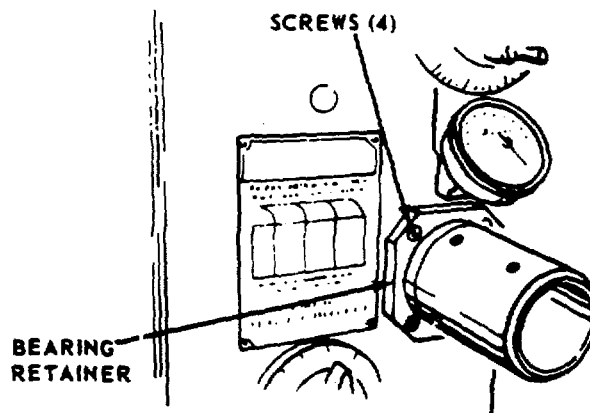

FIGURE 125
- (i) See Figure 125. Using a 3/16-inch) hex wrench, remove the four Screws holding Bearing Retainer to housing.
- (c) Secure Bearing Retainer to Housing with the four Screws (see Figure 125).